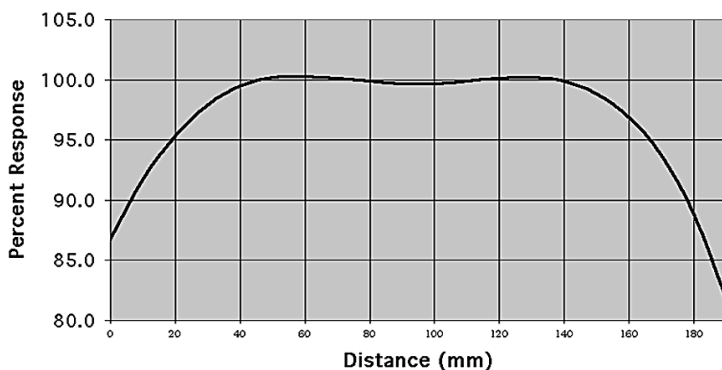

Figure 2: Typical axial response shown as a percent with distance from the bottom of the chamber.
The IVB 1000 ionization chamber has a vent hole to maintain the internal air at ambient atmospheric pressure. Thus, the readings obtained must be corrected for ambient temperature and pressure to the temperature and pressure of calibration (22° C and 760 mm Hg) at “normal” relative humidity (50% ± 25% non-condensing) in the usual accepted manner. The IVB 1000 has variable inserts available that can be set for different seed lengths. **Figure 1A** shows the ¹⁹²Ir insert and **Figure 1B** shows the ⁹⁰Sr insert. **Figure 2** shows a typical axial response curve for the IVB 1000 as determined by a single ¹⁹²Ir source. There is only a ±0.3% variability in sensitivity within 100 mm around the center (50 mm on each side). The axial response curve is similar for the ⁹⁰Sr source.
5. Insert catheter end to bottom of source holder. The dead space at the catheter end must be known, so that the center of the ^{192}Ir source can be positioned at the most sensitive spot of the chamber. See Figure 2, page 11 for a typical axial response curve for the IVB. Use the point determined during calibration as the sensitive spot for the IVB 1000.